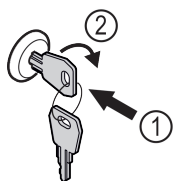

Fig. 75 Example illustration
- Insert key Fig. 75 (1).
- Turn key clockwise by 90° Fig. 75 (2).